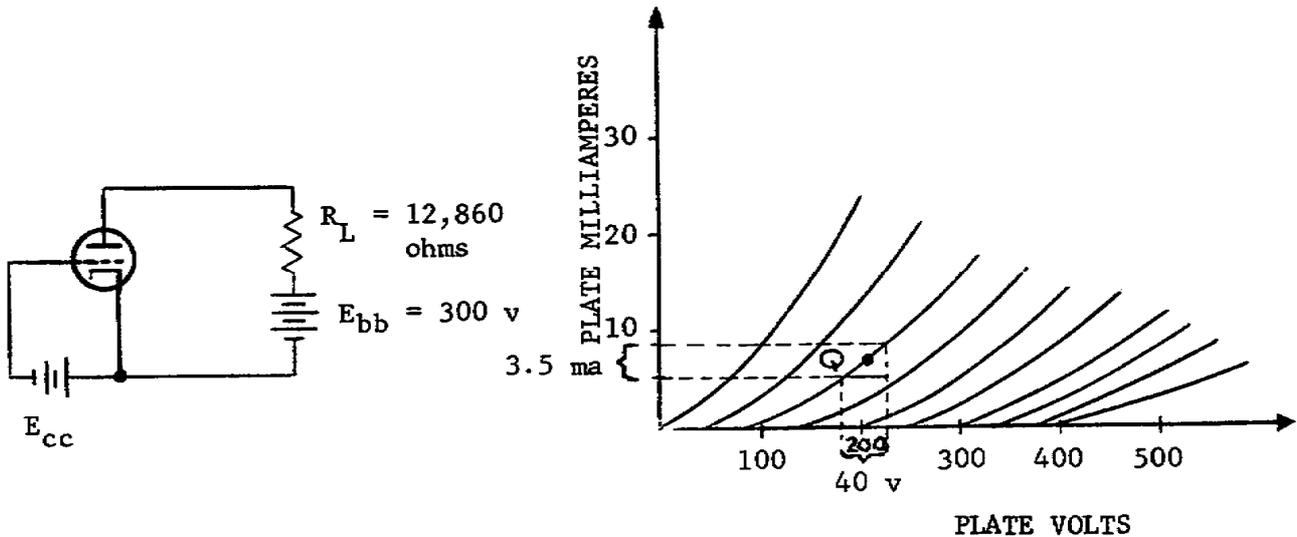

Figure 3-4. A basic triode circuit and plate characteristics.
Figure 3-4 below shows a triode circuit and a graph of the plate characteristics of the triode. The operating point of the triode is indicated on the characteristics by point Q. At point Q, the plate current is 7.0 mA and plate voltage is 210 volts.
NOTE: Use the changes shown in figure 3-4.
5. If the tube is operating at point Q, (fig. 3-4) and no signal is applied to the grid, what is the voltage drop across the load resistor?